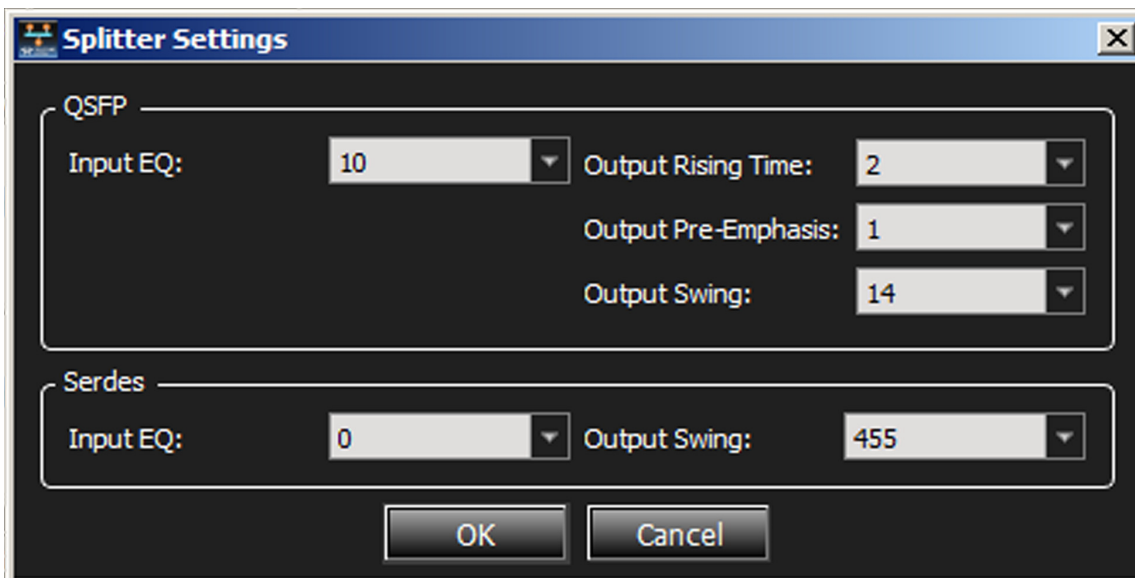

Figure 2.24: Splitter Settings dialog for 40 GigE device.
- ❑ Splitter: Selecting **Splitter** displays the Splitter Settings dialog. (See Figure 2.24 on page 52.)